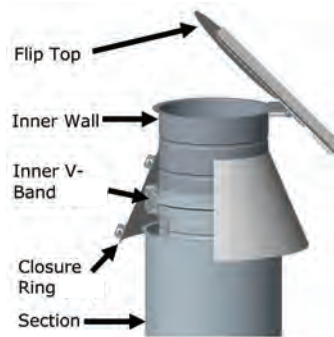

Figure 69 - Flip Top (FT) installed
the uppermost chimney pipe section with a inner V-Band (BSI) (See Step 1 to 4 in the JOINT ASSEMBLY Section). For Models DAS1, DIS1, DIS2 and DIS4, a Closure Ring (CR) is provided to protect the insulated space between standard pipe inner and outer. If a FT is installed on a horizontal termination, the hinged side of the top must be oriented at the top of the pipe keeping the counterweight up. The CR must be sealed to the inner wall with outer Sealant S-375. See Figure 69